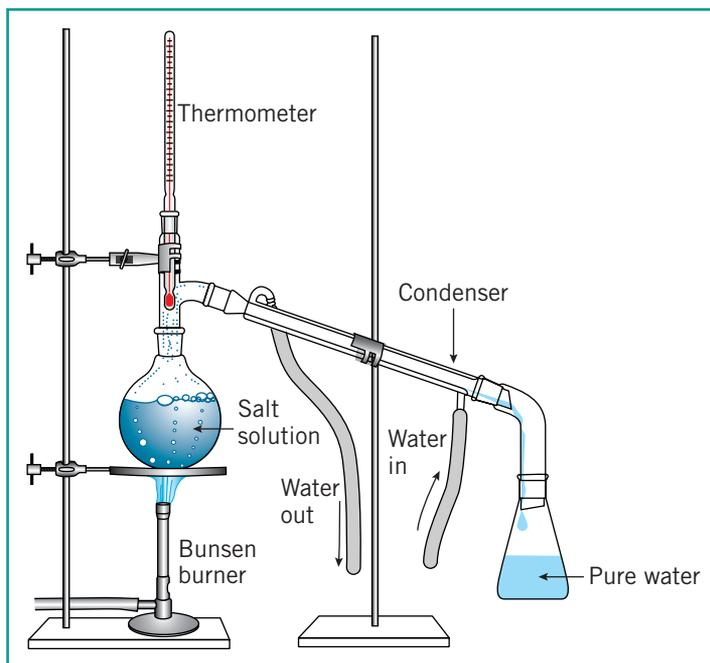

Figure 1.22 A simple distillation procedure to obtain pure water from a salt solution
*Distillation* is often used in the purification of liquids. Distillation involves boiling a liquid and cooling the gas produced to condense it back to the liquid state. Distillation is effective where the components in a mixture have very different boiling points. The component with the lowest boiling point boils off first, is cooled in a condenser and collected as a pure liquid, as shown in Figure 1.22. The components with higher boiling points remain in the distilling flask.